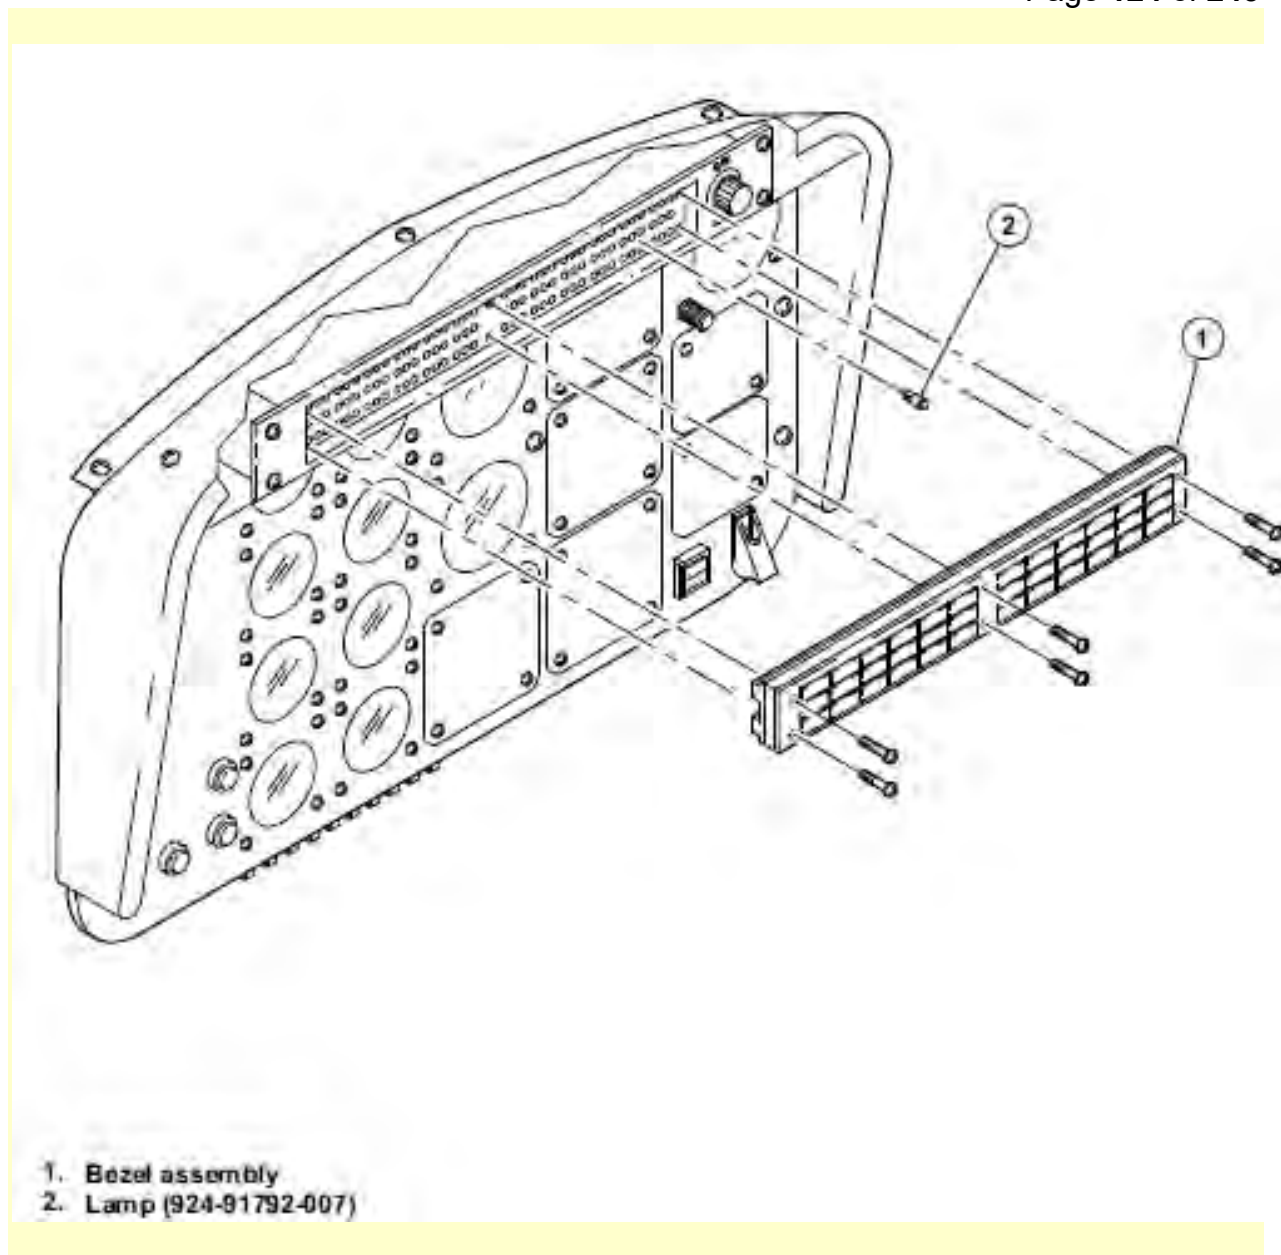

Figure 96-48: Caution/Warning/Advisory Panel Lamps - Removal and Installation
2. Loosen the screws that secure the bezel assembly (1, Figure 96-48) to the case of the caution/ warning/advisory panel (4DS1).
3. Pull the bezel assembly (1) out of the case of the panel.
4. Remove the lamp(s) (2) that are not serviceable. Install a serviceable lamp to replace the lamps removed.